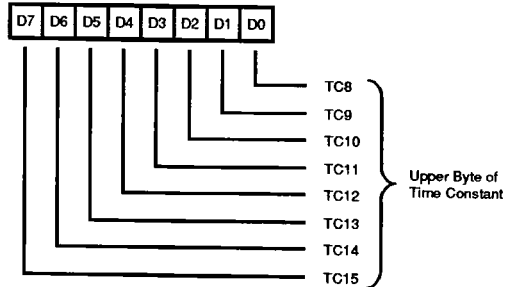

**Figure 17. Write Register Bit Functions (Continued)**
**Write Registers.** The SCC contains 15 write registers (16 counting the transmit buffer) in each channel. These write registers are programmed separately to configure the functional "personality" of the channels. There are two registers (WR2 and WR9) shared by the two channels that are accessed through either of them. WR2 contains the interrupt vector for both channels, while WR9 contains the interrupt control bits and reset commands. Figure 17 shows the format of each write register.